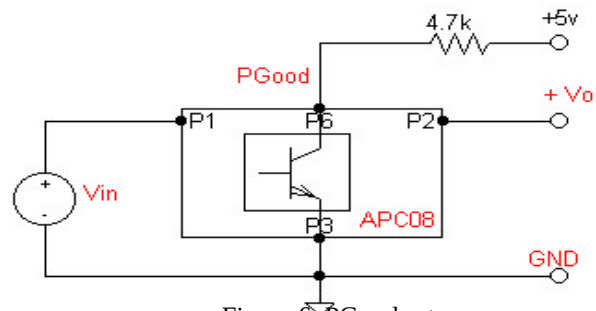

Figure 6: PGood setup.
7. See Figure 6 for PGood configuration
PG pin provides an output signal indicating the V_{out} is operational (TTL logic signal). It can sink current up to a max of 5mA and can have a maximum external pull-up voltage of 6V. Please see recommended setup shown on Figure 6.